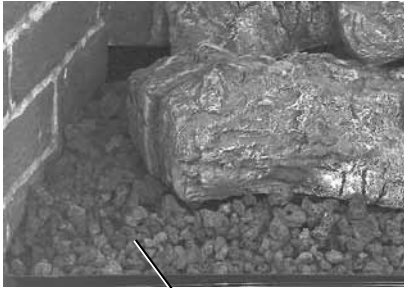

Figure 45
3. **Install decorative volcanic stone** - Sprinkle the decorative volcanic stone in a pleasing pattern (see **Figure 45 on page 28**). The volcanic stone should be placed directly on top of the firebox bottom, along the slope and to the back at the right and left sides of the burner. Position any ceramic fiber liners before placing the stone. Logs can be positioned after the volcanic stone.